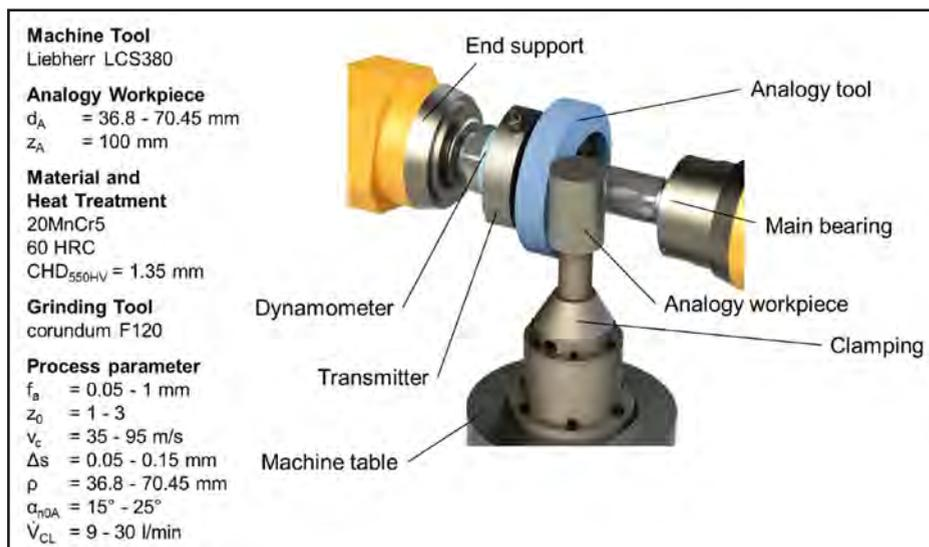

Figure 4 Experimental set-up analogy trial generating gear grinding.
**Figure 4** Line load distribution considering random manufacturing errors  $f_{ma} = \pm 41.5 \mu\text{m}$  (red lines);  $KH\beta = 1.16$ ; highest load occurs in the transition area between crowning and end relief; design considered as not suitable.
The experimental set-up of the analogy trails is shown (Fig. 4); the cutting force can be determined with a dynamometer which is integrated in the flow of forces. For further information, a full description of the analogy trail design can be found in (Ref. 12).